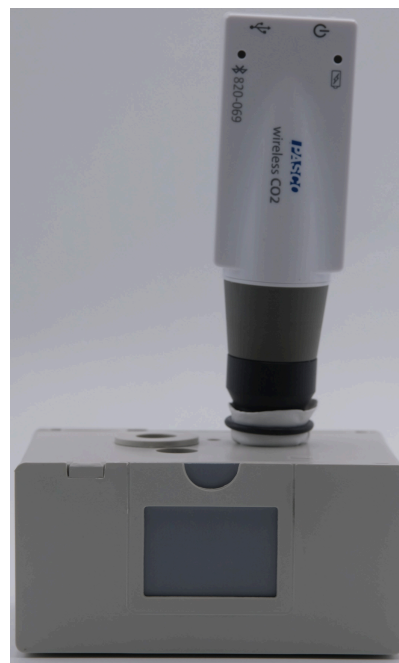

Figure 1: Inserting the Wireless CO₂ Sensor with Waterproof Sleeve into the Photosynthesis Chamber.
6. The sensor can now be safely submerged into solutions up to the O-ring. Use the largest opening in the Photosynthesis Chamber lid to do so, inserting the probe end of the sensor into the opening as if it were a stopper. (See Figure 1.)